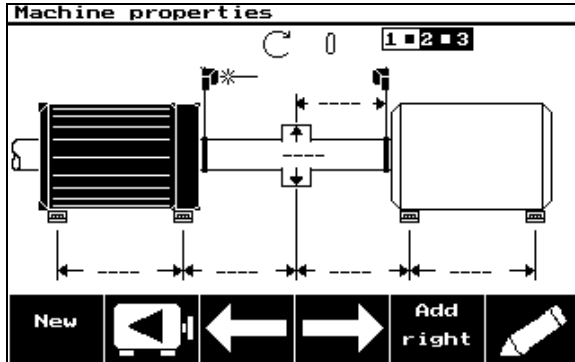
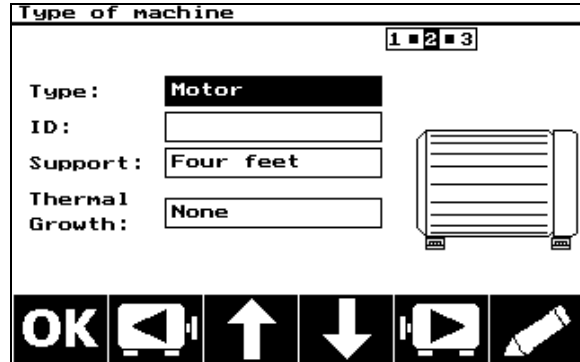

Figure A3
Figure A4
- 2) Using the **←** key repeatedly, highlight Machine 2 (see *Figure A3*) and press **✎**. This opens the screen where you can edit all of the configuration parameters of the machine. See *Figure A4*. Note that the icon **1 2 3** indicates you are editing Machine 2, the middle machine, and the machine parameter "Type" is highlighted.